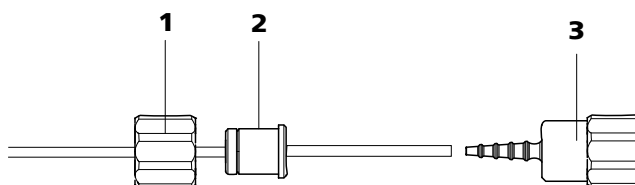

Figure 21 Install pump tubing connection without filter
- **Case B:** a 6.2744.160 pump tubing connection **without filter** (see Figure 21, page 32).